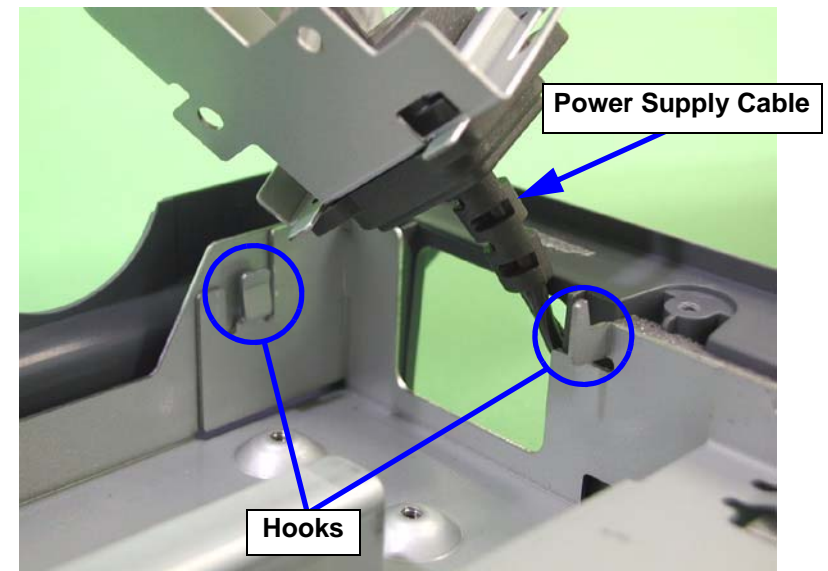

Figure 4-35. Power Supply Cable Removal (2)
6. Disengage the two hooks, and then remove the power supply cable unit. (See Figure 4-35)